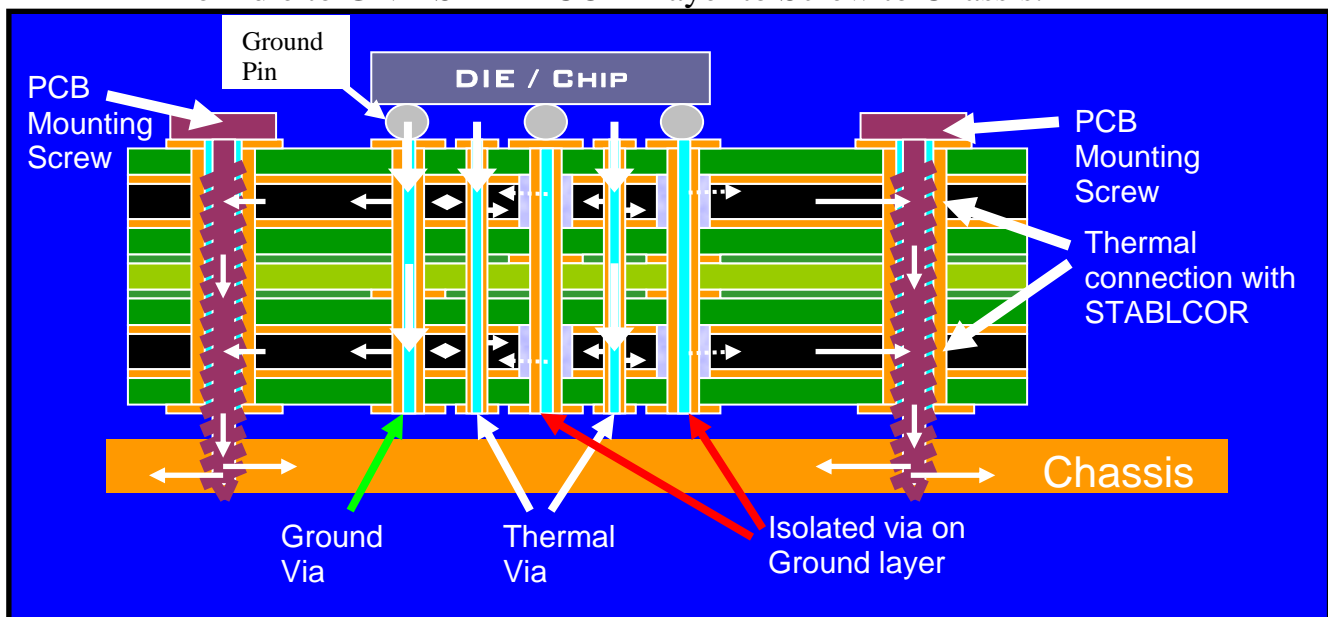

Fig. 4
5.1.1. STABLCOR® as a GND layer: Connect the ground pins to the STABLCOR® Plane. Connect the STABLCOR® layer to a frame or chassis via mounting screw or bolt. See Fig.4 below. This will create thermal paths from die to GND STABLCOR® layer to Screw to Chassis.
You can also add thermal vias underneath the component as shown in Fig.4.